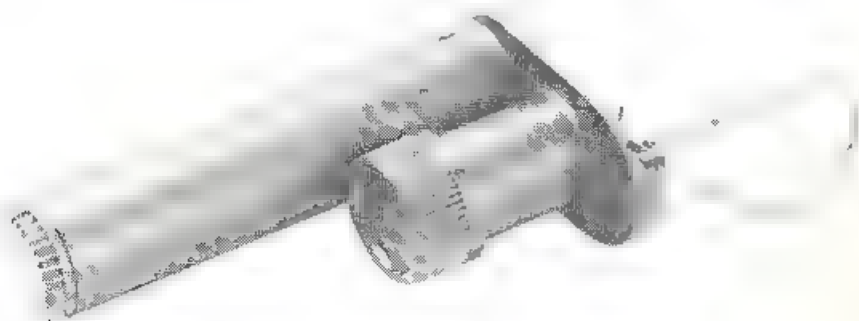

Fig. 35
- 2 - housing for a cord having a cleaning brush at one end and an eye rod at the other end, for holding the drying cleaning cloths (figs. 35 and 36)